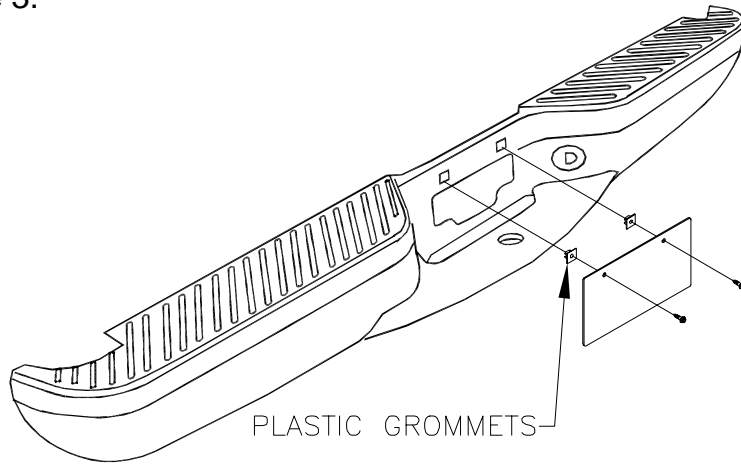

FIGURE 3
**STEP 5:** Position the bumper squarely to the tailgate. Allow ample clearance for the tailgate to open. Using a torque wrench tighten all (8) M14-2.0 Bolts to 85-95 foot-pounds (115-130 Newton-meters).
**STEP 6:** Use the square plastic grommets and screws to install the license plate. Refer to Figure 3.